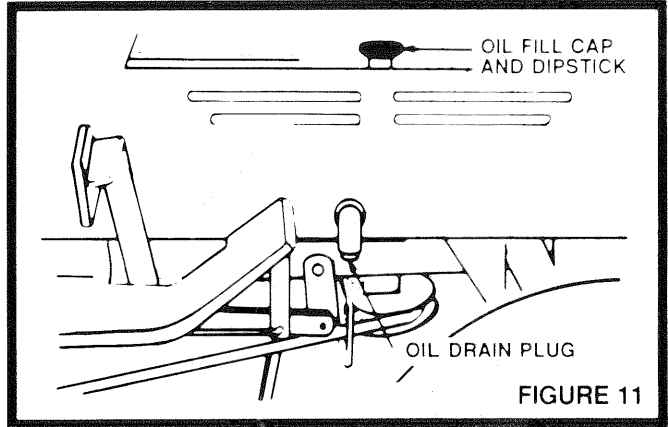

FIGURE 11
1. Drain Oil with Engine warm. Unscrew Oil Drain Plug (Fig. 11) and catch Oil in a suitable container. Replace Plug.
Several minutes after stopping Engine, check Engine Oil Level with Tractor on level ground. Wipe Dipstick clean (Fig. 11), screw it in tight for a few seconds, remove and read Oil Level. If necessary, add Oil until "FULL" mark is reached. (See chart, Page 4.) NOTE: DO NOT OVERFILL.